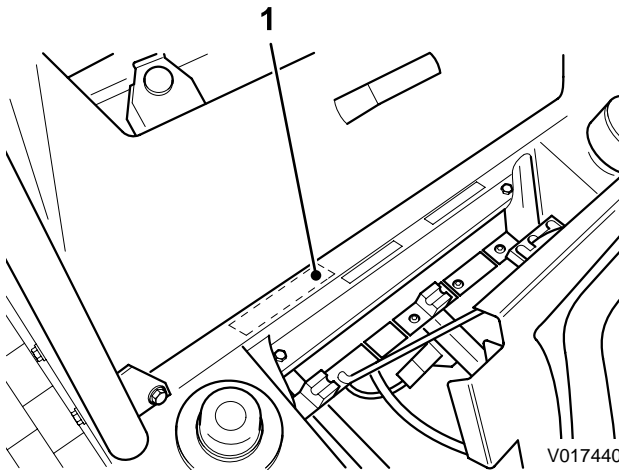

Fig 1.
Your machine has an identification plate, mounted as shown. ⇒ Fig 1. \(□ 1-3\). Information contained on this plate is the Product identification number, Serial number, Weight in kg, Year of manufacture, and Engine power in kw.
The manufacturer's name and serial number are stamped on the chassis as shown (1). ⇒ Fig 1. \(□ 1-3\)